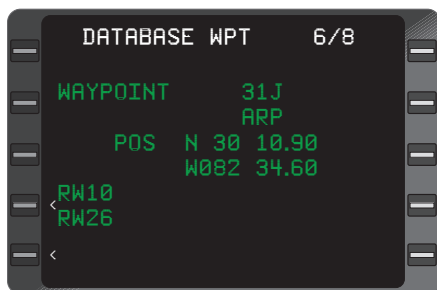

Figure 2-82
- If the airport shows a 3 character (letters and numbers) IDENTIFIER, enter the identifier as printed. Example: 31J (Lake City, Florida) enter 31J. (Figure 2-82)